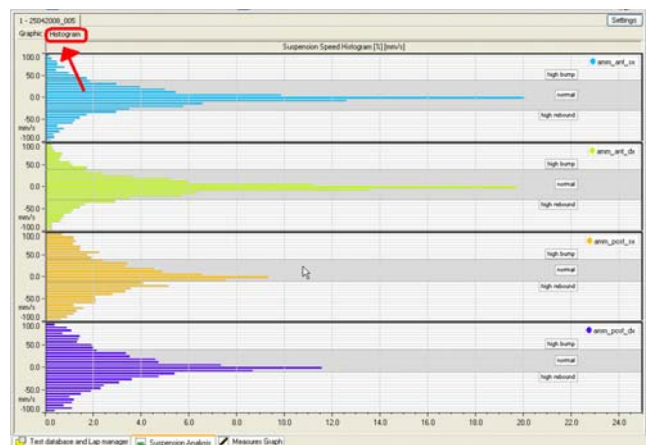

Figure 3b – Histogram window.
- **Histogram:** represents the all test dividing the values by bands (Figure 3b).